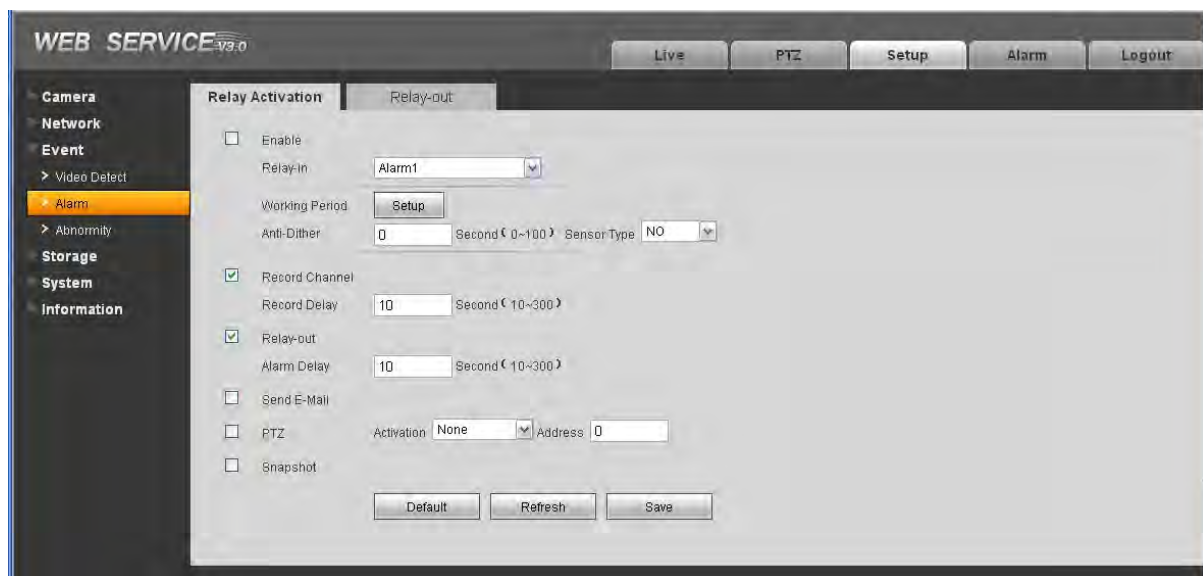

Figure 2-4
The alarm setup interface is shown as below. See Figure 2-4.
- Open the Web, go to the Figure 2-4. Here you can set the alarm input setup and alarm output setup. Please set the alarm in for the alarm input in the rear panel. Then you can select the corresponding type (NO/NC) according to the high/low level type when an alarm occurs.